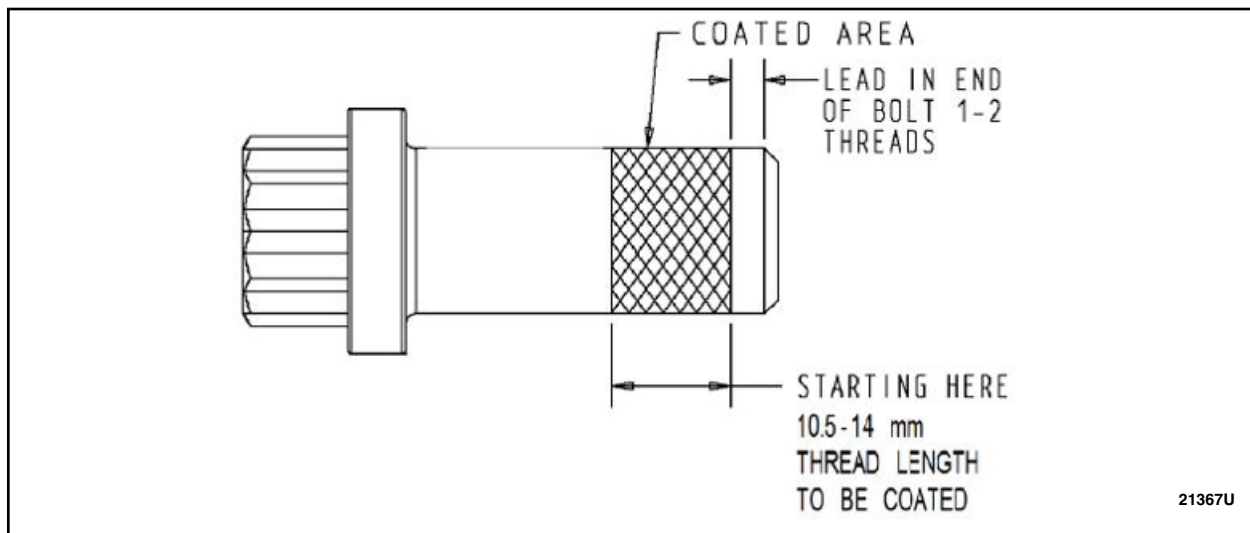

FIGURE 11
18. Inspect the original driveshaft flange to pinion flange bolts for rust in the threads and replace if rusted or damaged. Clean threads of the original driveshaft flange to pinion flange bolts with a wire brush and coat the threads with LOCTITE 243 Blue Medium Strength Threadlocker or equivalent. See Figure 11.